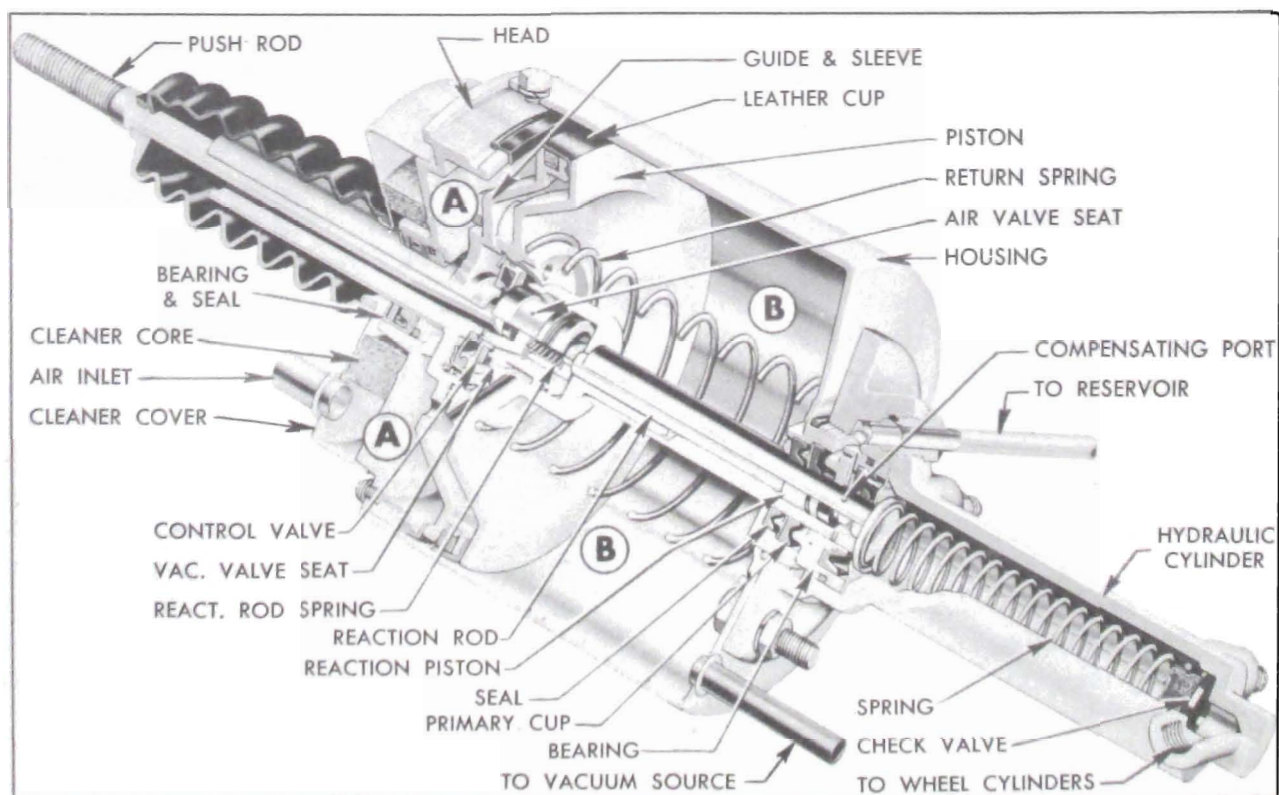

Figure 8-1—Power Brake Cylinder
As shown in figure 8-1, the power cylinder head closes the forward end of the cylinder housing to form a large *air-vacuum* chamber in which the power piston operates. The sleeve (small end) of the power piston extends through seals, cups, and a bearing in forward end of the hydraulic cylinder which is mounted on rear end of cylinder housing. The sleeve (small end) of a guide mounted on the piston extends through a bearing and seal in the cylinder head. The piston is thereby centrally supported so that it can move freely back and forth in the housing. A return spring presses the piston toward the cylinder head.
The rim of power piston carries a spring expanded leather cup to seal against passage of air, so that the piston divides the *air-vacuum* chamber into two separate chambers which we will call (A) *air* chamber (B) *vacuum* chamber. See figure 8-1. Engine manifold vacuum always exists in the *vacuum* chamber (B) when engine is running, because it is directly connected to the intake manifold by a pipe. Either vacuum or air at atmospheric pressure may exist in the *air* chamber (A) depending on operating stages described later; this is governed by the control valve.
The control valve parts are located in the cavity at center of the lower piston and guide assembly. The rubber diaphragm of the floating control valve is pressed over the hub of piston guide and a light coil spring presses the valve disk rearward. The air valve seat slides inside the hub of power piston, and the reaction rod spring presses it forward. In the brake released stage, the air valve seat contacts the hub of piston guide and the floating control valve disk. The cylinder push rod extends through the piston guide sleeve in position to push the air valve seat rearward when brakes are applied. A vacuum valve seat is machined on the power piston in position to be contacted by the control valve disk. Holes in piston and guide provide air or vacuum passages to the *air* chamber (A). See figure 8-1.
The power piston sleeve contains a reaction piston with rubber cup and a reaction rod. See figure 8-1. Both of these parts slide freely in the sleeve and their movement is governed by